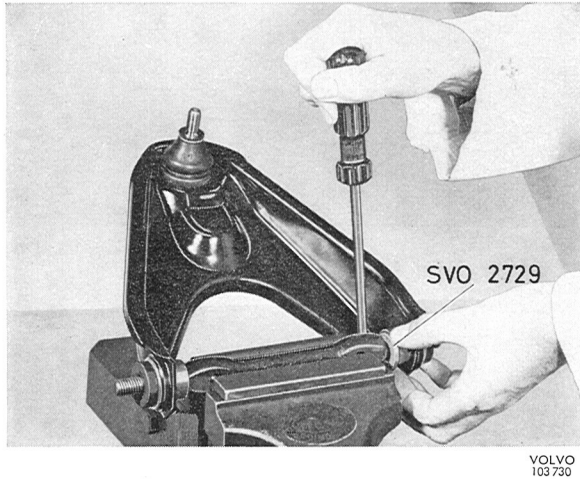

Fig. 6-33. Removing control arm shaft. 1. Removal of tool 2729
2. Fix the control arm shaft securely in a vise. Carefully bend out the control arm ends so that tool 2729 can be attached, Fig. 6-33. Drive out